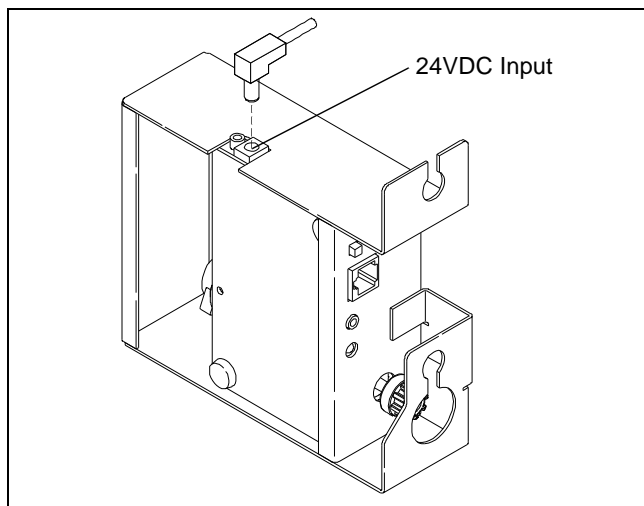

Figure 1
1. Insert the plug from the Power Supply into the jack on the side of the motor box. (See Figure 1)